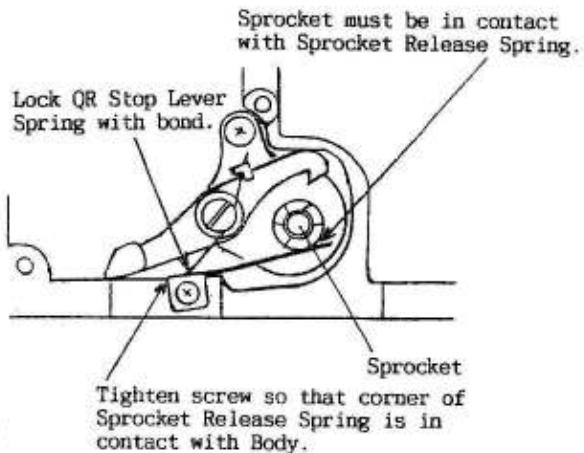

Fig.25
- b) Be sure to push the Set Cam Plate Ass'y down to the root of the W. Shaft (B) completely.
- 16) Set the QR Stop Lever Spring (15967700) as shown in Fig.25.